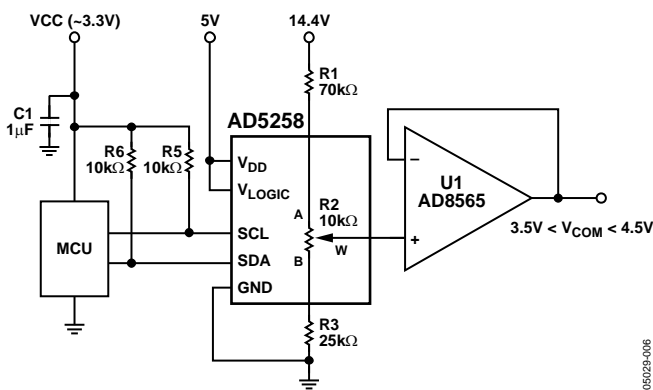
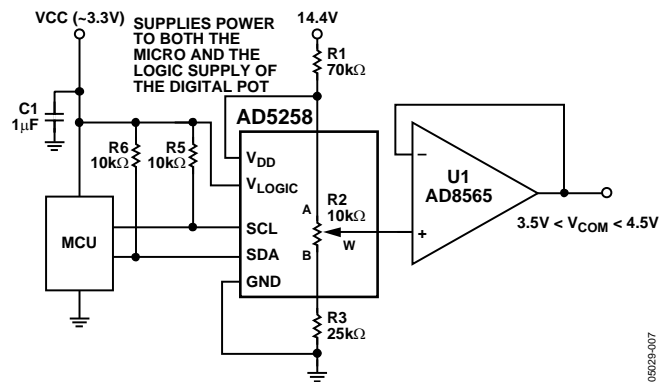

Figure 45. V_{COM} Adjustment Application
Figure 46. Circuitry When a Separate Supply is Not Available for V_{DD}
5. After all data bits have been read or written, a STOP condition is established by the master. A STOP condition is defined as a low-to-high transition on the SDA line while SCL is high. In write mode, the master pulls the SDA line high during the tenth clock pulse to establish a STOP condition (see Figure 45). In read mode, the master issues a no acknowledge for the ninth clock pulse (that is, the SDA line remains high). The master then brings the SDA line low before the tenth clock pulse, and then raises SDA high to establish a STOP condition (see Figure 46).
In particular, LCD panels often require a V_{COM} voltage in the range of 3 V to 5 V. The circuit in Figure 45 is the rare exception in which a 5 V supply is available to power the digital potentiometer.
In the more common case shown in Figure 46, only analog 14.4 V and digital logic 3.3 V supplies are available. By placing discrete resistors above and below the digital pot, V_{DD} can now be tapped off the resistor string itself. Based on the chosen resistor values, the voltage at V_{DD} in this case equals 4.8 V, allowing the wiper to be safely operated all the way up to 4.8 V. The current draw of